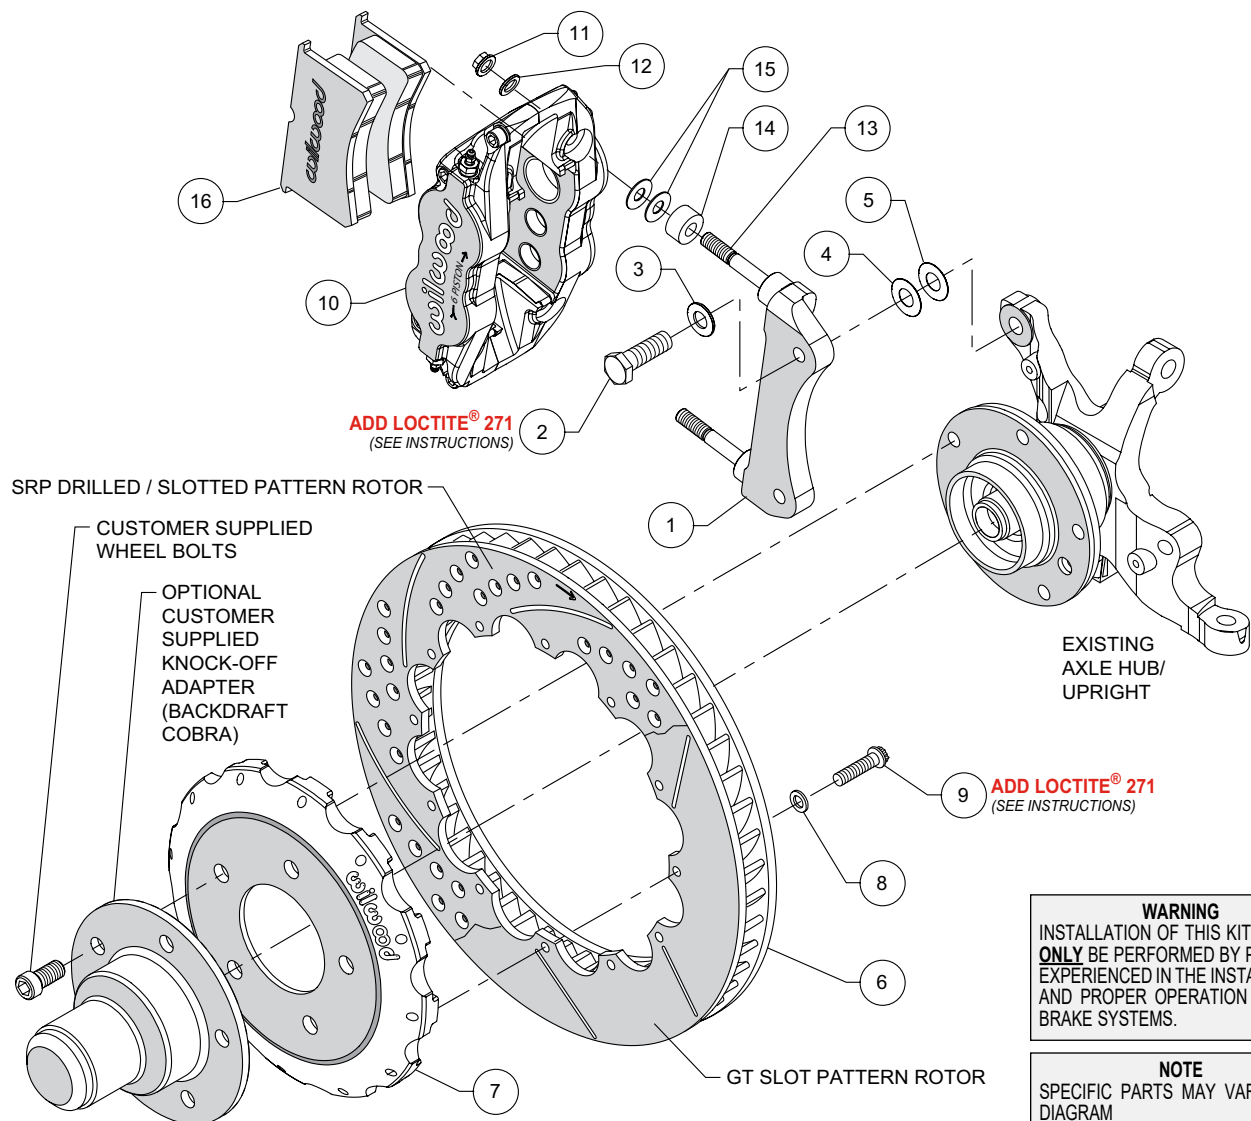
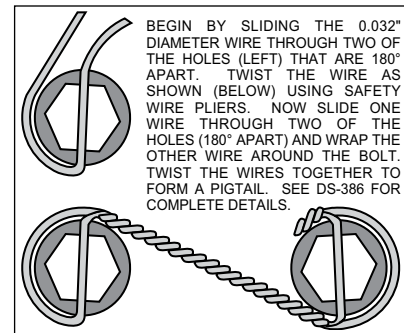

Figure 1. Typical Installation Configuration
Figure 3. Safety Wire Diagram
Assembly Instructions (numbers in parenthesis refer to the parts list and Figure 1 on the preceding pages):
- The caliper mount bracket assembly (1) should initially be installed with clean, dry threads on the mounting bolts. Orient the bracket as shown in Figure 1 and install using mount bolts (2) and washers (3). Initially place one each .033" thick shim (4), and .015" thick shim (5) on each bolt between the bracket and upright, Figure 1. Temporarily tighten the mounting bolts. **NOTE: The bracket must fit squarely against the mount bosses on the backside of the upright.** Inspect for interference from casting irregularities, machining ridges, burrs, etc. Later, after the caliper alignment has been checked, the mount bolts will be secured using *Loctite*®.
- Orient the rotor (6) and the hat (7) as shown in Figure 1. Attach rotor to hat using bolts (9) and washers (8). Apply red *Loctite*® 271 to the bolt threads and torque to 155 in-lb using a criss-cross pattern. For an added measure of security, the bolts may be safety wired using standard 0.032 inch diameter stainless steel safety wire as shown in Figure 3. Please refer to Wilwood's data sheet DS-386 (available at www.wilwood.com/Pdf/DataSheets/ds386.pdf) for complete safety wire installation instructions.
- **NOTE: This kit contains distinct right and left hand calipers that must be mounted in a specific direction, as described below.** Slide spacer (14) and two .035" thick shims (15) on each stud between the caliper and the bracket, as shown in Figure 1. Mount the caliper (10) onto the bracket (1) using lock nuts (11) and washers (12), Figure 1. Temporarily tighten the lock nuts. Ensure that the caliper is mounted so the largest pistons are at the rotor exit end of the caliper, in relation to the direction of the rotor. View the rotor (6) through the top opening of the caliper. The rotor should be centered in the caliper. If not, adjust by adding or subtracting shims (4 and/or 5) between the bracket and the upright. Always use the same amount of shims on each of the two mounting bolts. Once the caliper alignment is correct, remove the bracket mounting bolts one at a time, apply red *Loctite*® 271 to the threads, and torque to 65 ft-lb.
- Remove the caliper center bridge pad retainer bolt, nut, and tube from the caliper. Insert the brake pads (16) into the caliper, with the friction material facing the rotor, Figure 1. Check that the top of the brake pad is flush with the outside diameter of the rotor. If not, adjust by adding or subtracting shims (15) between the caliper and the bracket. After the caliper pad height is set, torque the caliper lock nuts (11) to 28 ft-lb. Secure the brake pads in place with the center bridge pad retainer tube, bolt, and lock nut. The locknut should be snug without play in the bolt or tube. Be cautious not to over tighten.